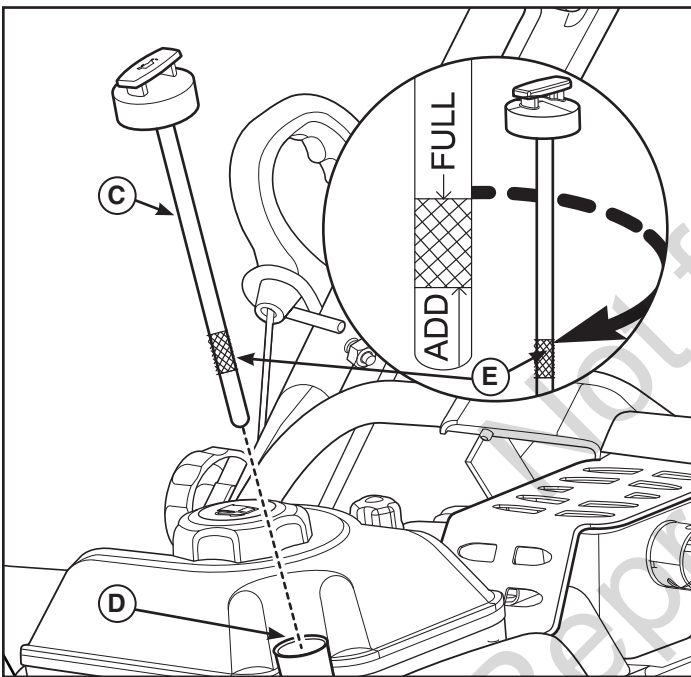

Figure 13
4. Remove the dipstick (C, Figure 13) and wipe with clean cloth.
5. Pour the oil slowly into the engine oil fill (D). DO NOT overfill. Wait one minute and recheck the oil level.
7. Remove the dipstick and check the oil level. It should be at the top of the full indicator (E) on the dipstick.